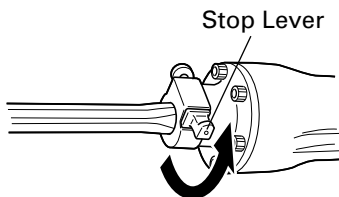

Fig. 3
- (3) Clamp the tool by turning the stop lever by half a turn in the opposite direction. (Fig. 3)